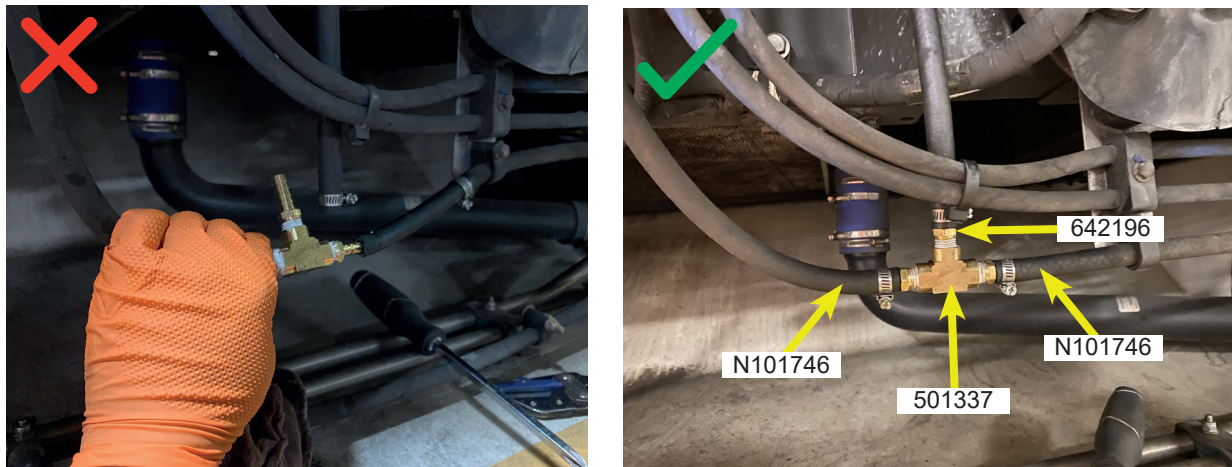

Figure 8 - Installation of T-Fitting Assembly
- 1.15. Align the hose N95062-51 with existing bottom (black) vent hose and cut all to size accordingly to install the bottom T fitting 501337 with adapters 642196 and 2x N101746. When securing the T-fitting to the hoses, the hoses must be leveled at a downwards or straight pitch. Do not allow the hose to bend upwards. Left figure not acceptable. Right figure is acceptable (see figure 8).